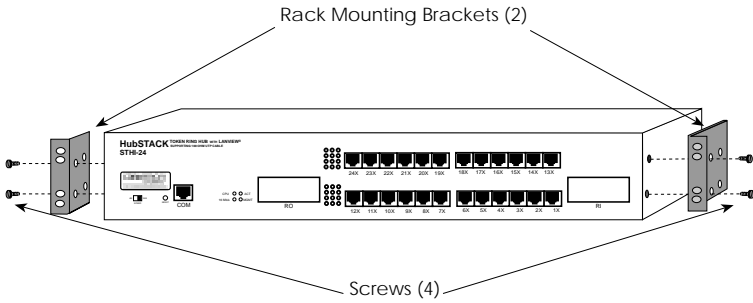

Figure 3-2. Installing the Rack-Mount Brackets
2. Using the four screws removed in step 1, attach the rack-mounting brackets to each side of the STHI as shown in Figure 3-2.